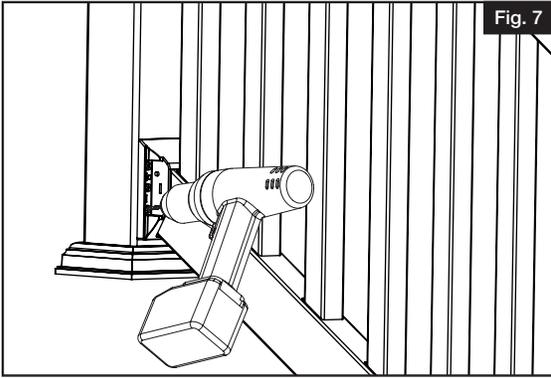

Fig. 7
- c. Ensure bracket is centered to post. Then, using  $\frac{1}{8}$ " drill bit, pre-drill first bottom bracket screw hole through bracket hole and post (use the four outside corner holes) (Fig. 7).